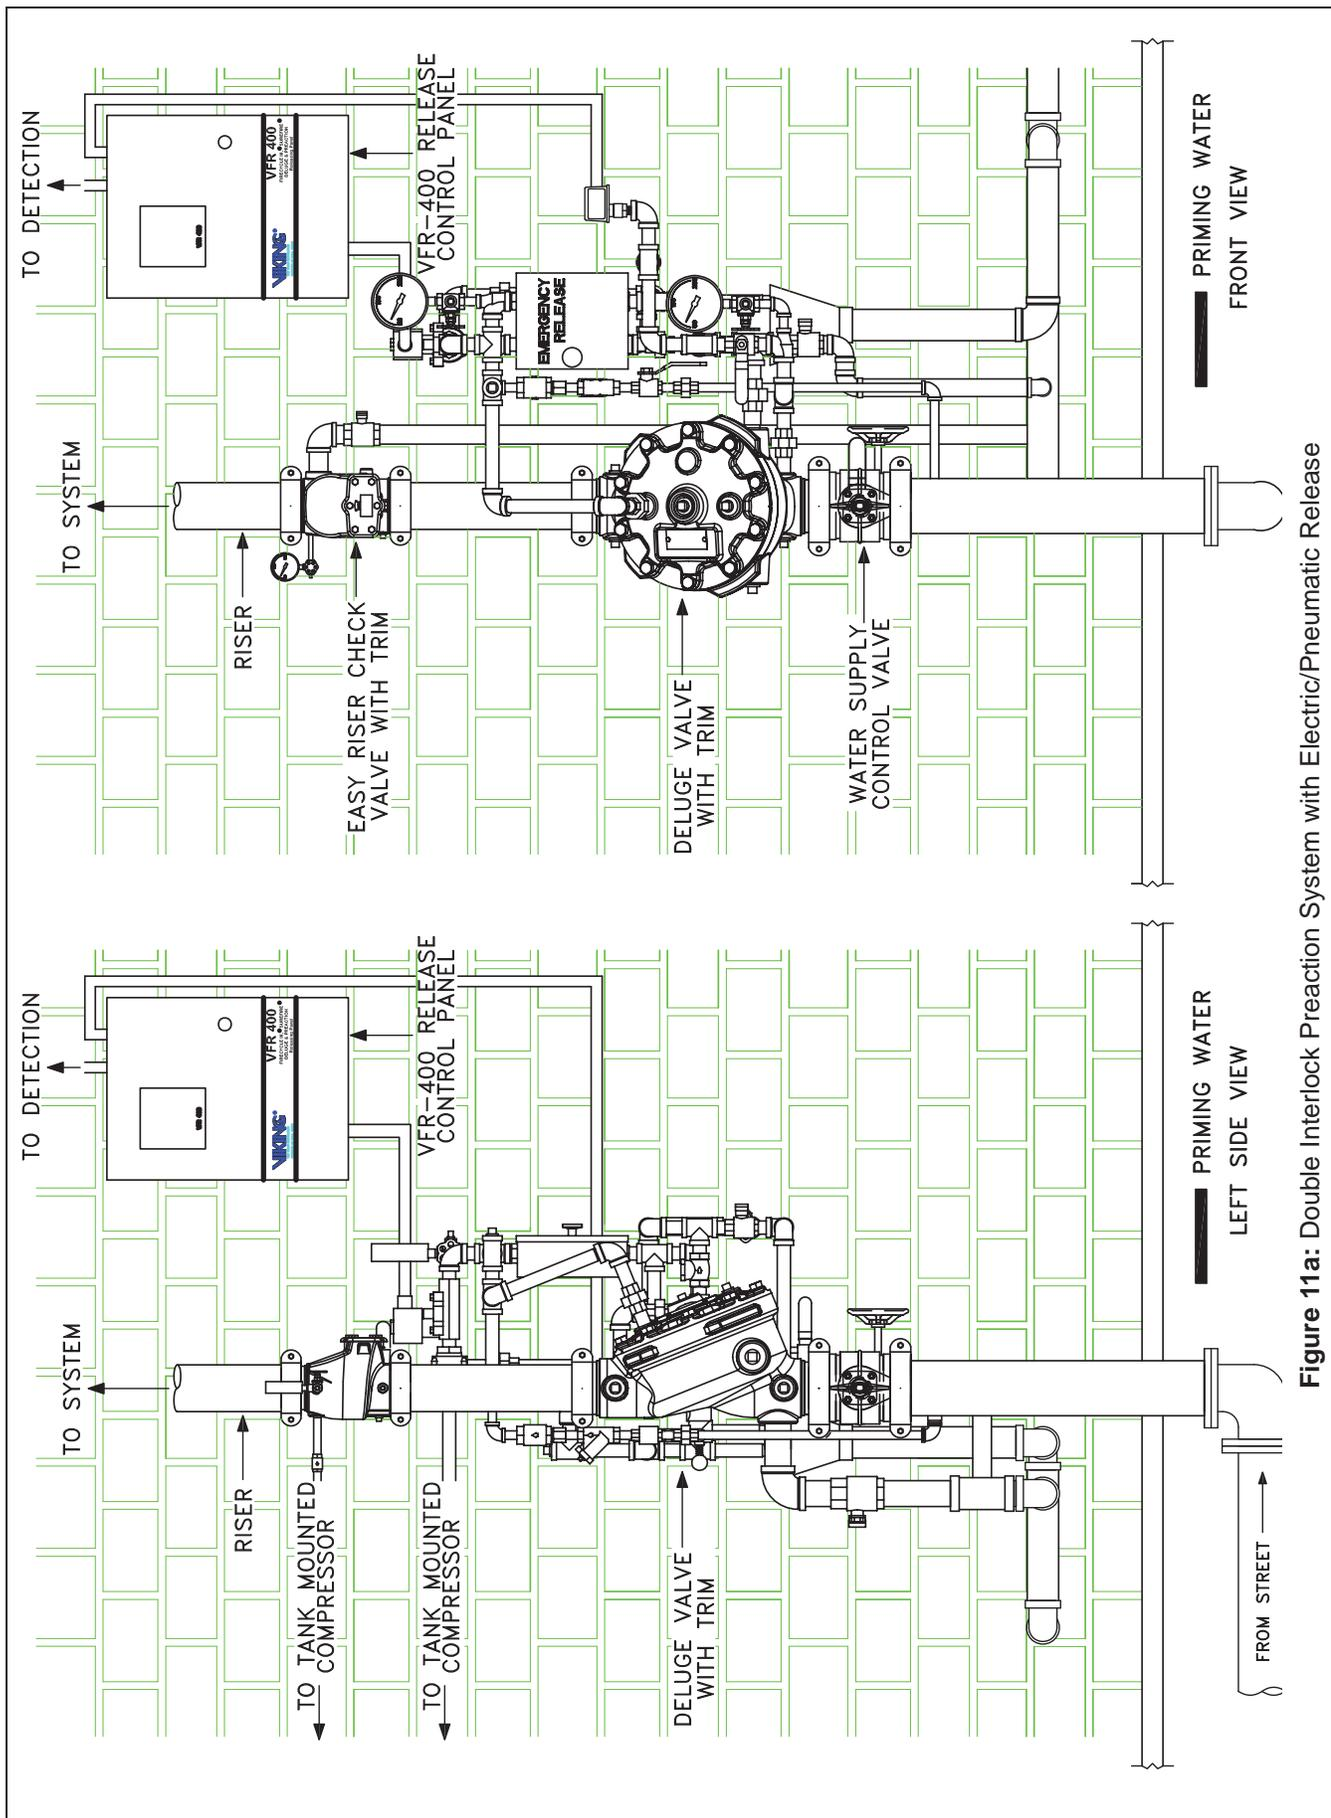
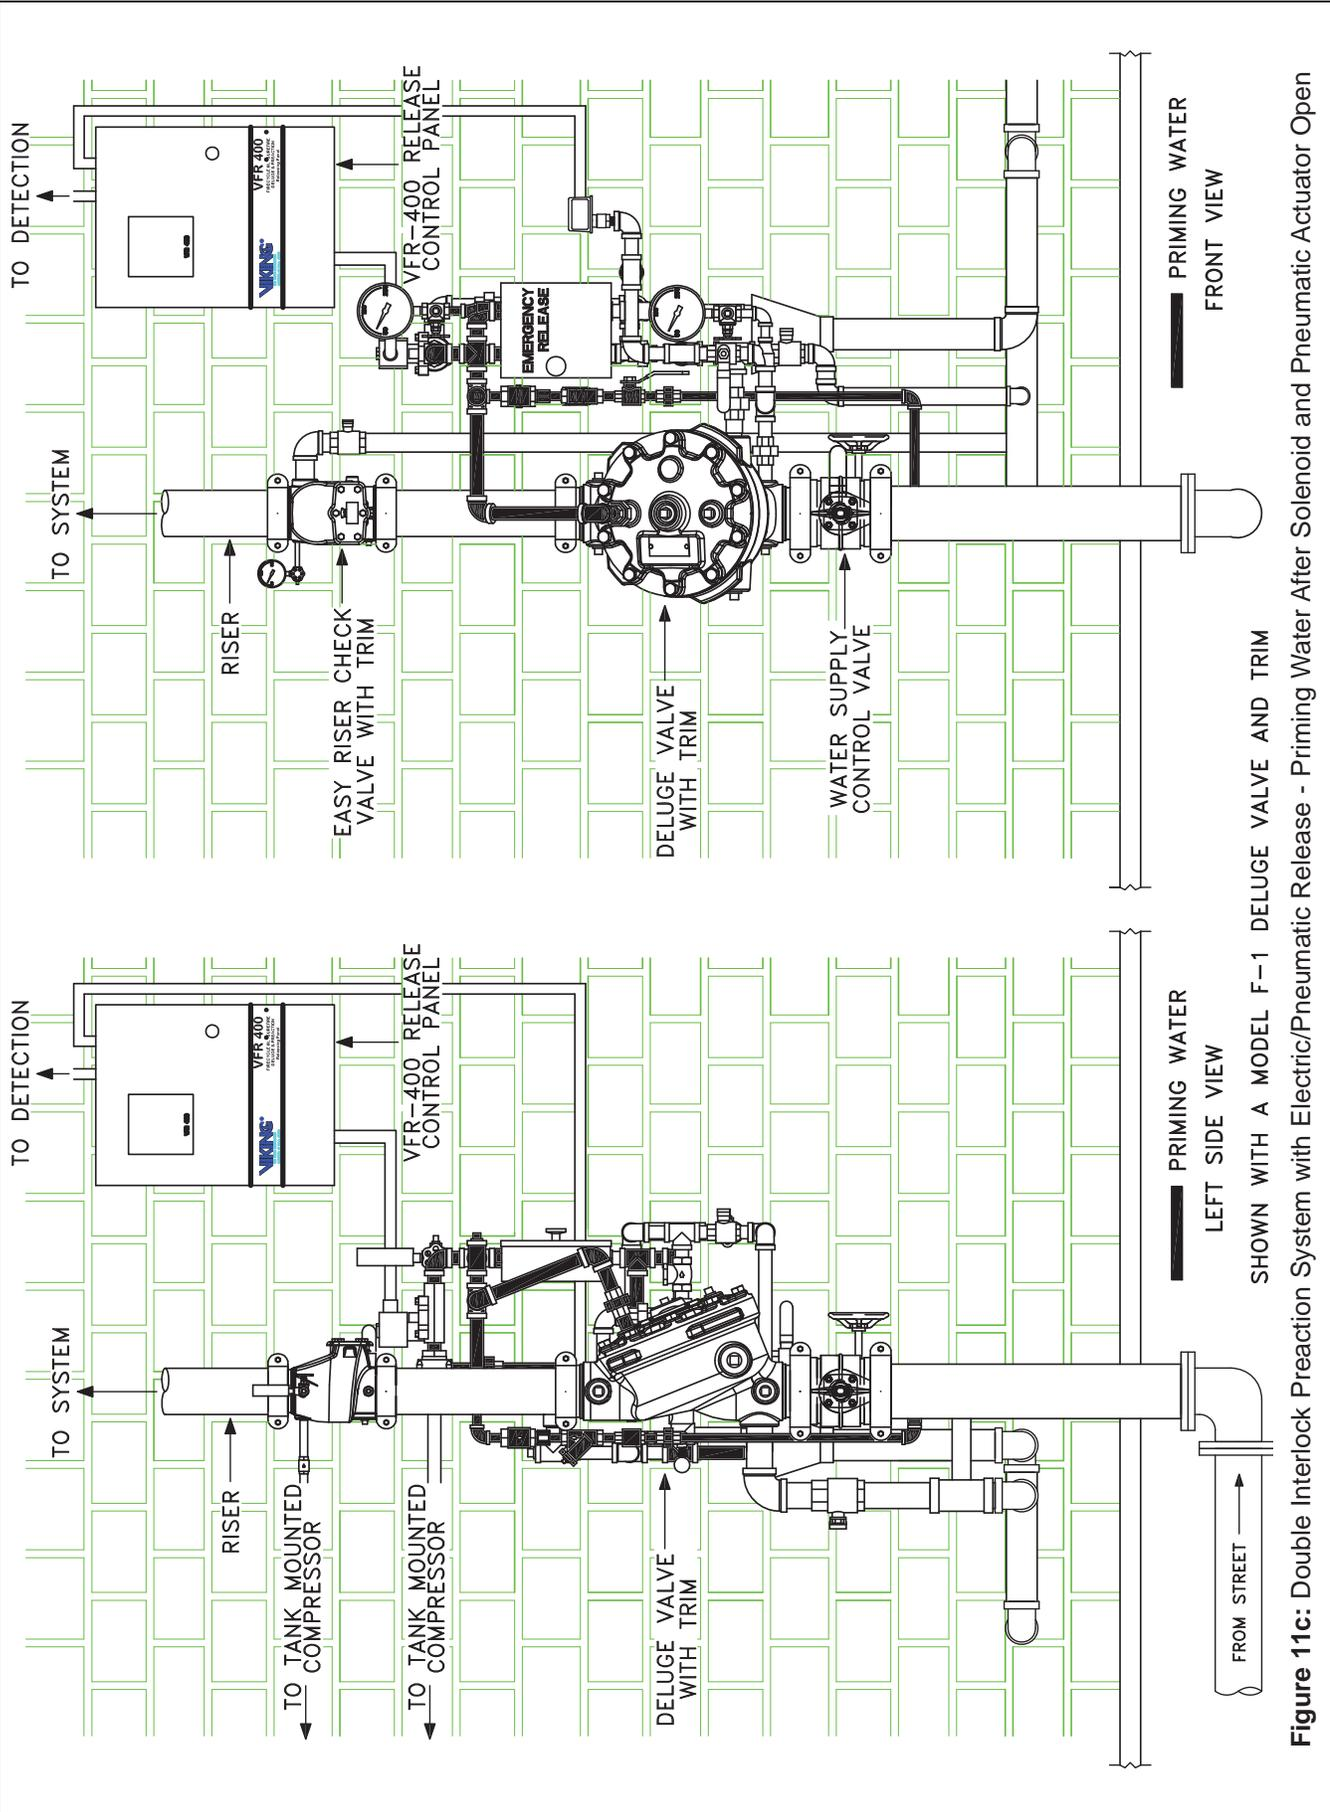

Figure 11a: Double Interlock Preaction System with Electric/Pneumatic Release
Figure 11c: Double Interlock Preaction System with Electric/Pneumatic Release - Priming Water After Solenoid and Pneumatic Actuator Open
B. Double-Interlocked Preaction System (Figures 11a-13c)
Refer to Figure 11a and 11b. This system uses the same electrical detection system as previously discussed. The operation of an electric detection system depends on the activation of a detector, which signals the release control panel to open a solenoid valve and activate an electric alarm. However, the system will not trip unless a sprinkler fuses, releasing the air pressure on the pneumatic actuator, allowing it to open, relieving the release line pressure. When that happens, the deluge valve opens (Figure 11c).